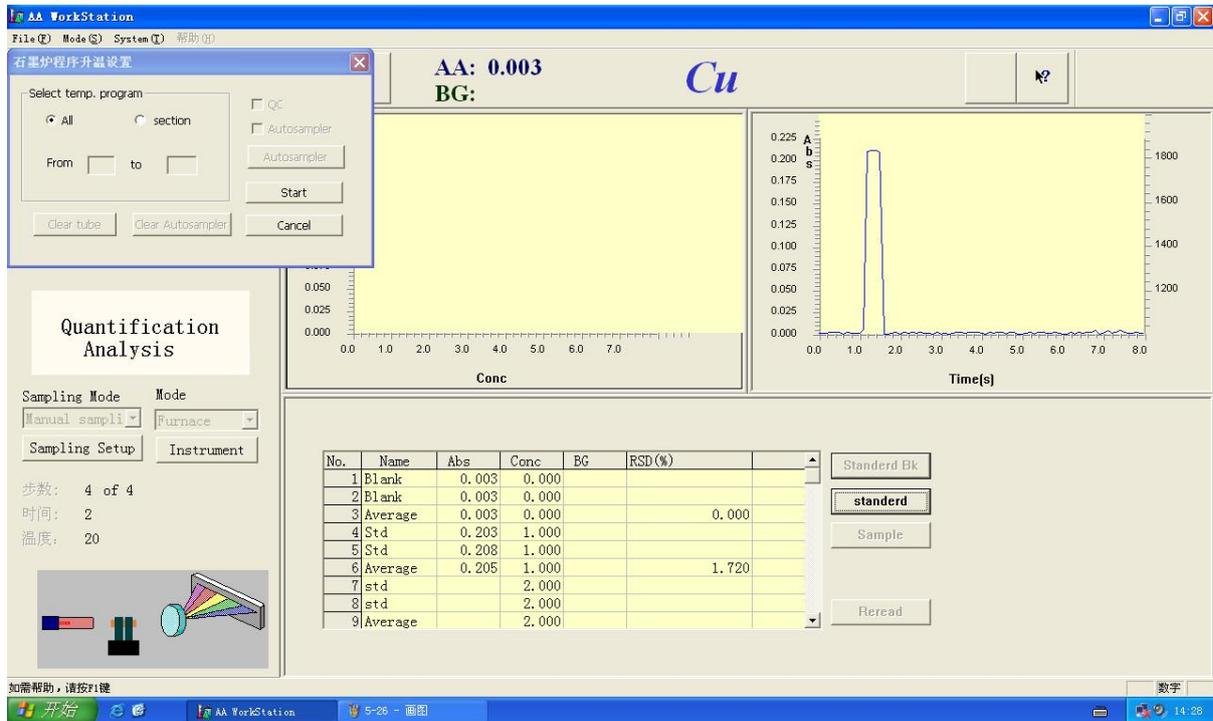

Figure 5-27
19. Now to test standard sample. Sampling standard sample 1, press “Start” to start heating, when a warning tone of “du” sounds sampling standard sample 1 again, when a warning tone of “du” sounds Figure 5-27 pops up